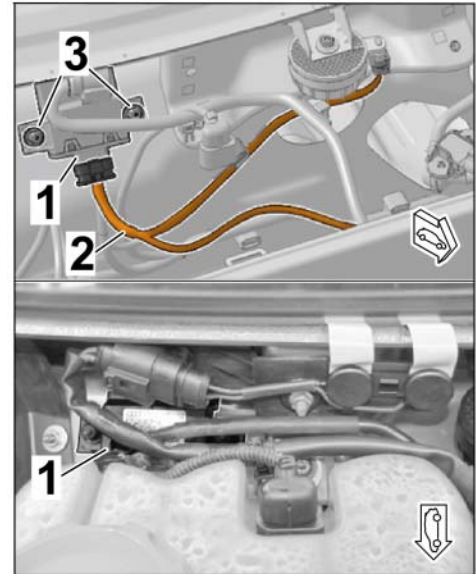

Figure 19
- 2.2 Install engine noise control unit (⇒ *Figure 19*)
2.2.2 Position the engine noise control unit on stud bolt M6 (2 x) in the water tank and fasten with hexagon collar nut (2 x) ( $\Rightarrow$  Figure 19).